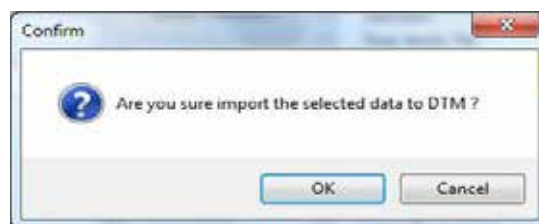

Figure 98 Apply
- Click **Apply** and Figure 98 appears.